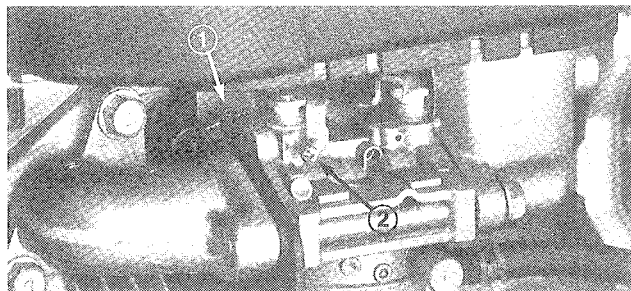

Figure 20
1. Idle Mixture Screw (Fig. 20) — Close screw by gently rotating it clockwise.
2. Rotate — open — the screw 1–1/8 turns counterclockwise (Fig. 20).